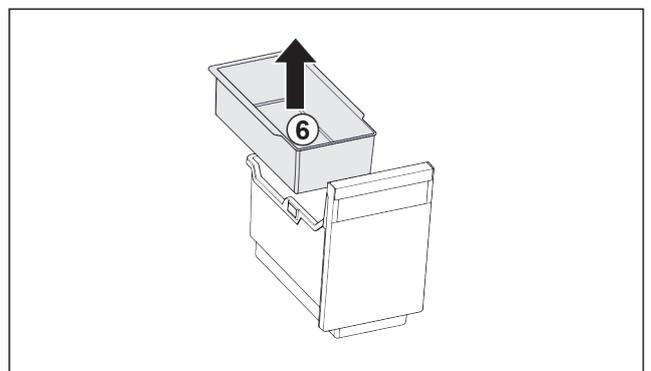

Fig. 85
- ▶ Remove the hang-on tray Fig. 85 (6).